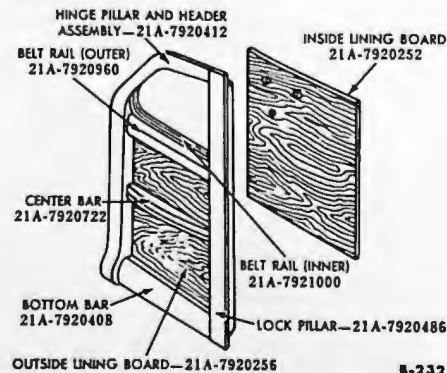

Fig. 1—Front Door Assembly
(1) **HINGE PILLAR AND HEADER BAR ASSEMBLY REPLACEMENT** (fig. 1). Remove the inner lining board, hardware, glass, and inner belt rail. Saw through the pillar just above the belt rail. Remove the screws that secure the joints, work the header bar up and down to break the joint, and remove the header bar. Knock the hinge pillar off, being careful not to damage the lining board, belt rail, and center bar. To install, clean the tenons and assemble the new hinge pillar, using glue on the joints. Clamp the joints until the glue is set to ensure a tight joint. Replace the hardware, inner belt rail and inner lining board.
(2) **LOCK PILLAR REPLACEMENT** (fig. 1). Remove the inner lining board, hardware, glass, and inner belt rail. Remove the screws from the joints, and drive the lock pillar off the assembly, being careful not to damage the lining board, bottom bar, center bar, or belt rail. Clean the tenons, and install the new lock pillar, using glue on the joints. Clamp the joints until the glue is set to ensure a tight joint. Install the screws, hardware, glass, inner belt rail, and inner lining board.
(3) **OUTSIDE LINING BOARD REPLACEMENT** (fig. 1). Remove the hardware, glass, inner lining board, and inner belt rail. Remove the lock
(4) **BELT RAIL OR OUTER BOTTOM BAR REPLACEMENT** (fig. 1). Remove the hardware, glass, inside lining board and inner belt rail. Remove the lock pillar or hinge pillar, being careful not to damage it. Clean all of the joints. Install the new outer belt rail or bottom bar and pillar, using glue on the joints. Clamp the joints until the glue is set to ensure a tight joint. Install the screws, hardware, glass, inside lining board, and inner belt rail.